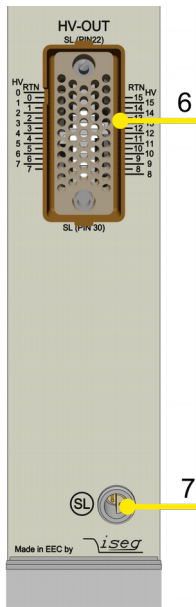
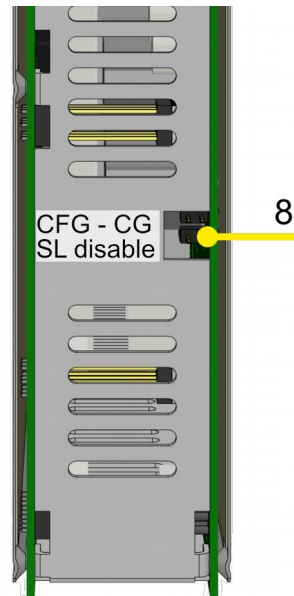
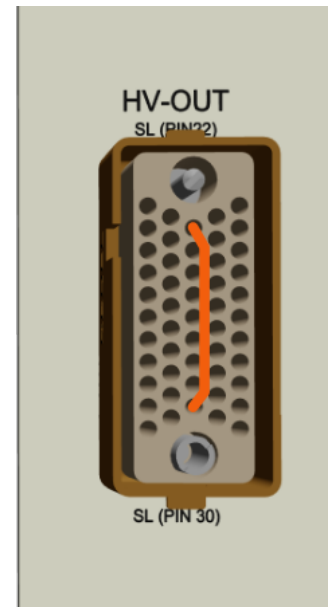

Figure 8: section of front view
Figure 9: section of back view
Figure 10: SL closed
A safety loop can be implemented by the safety loop socket (SL) on the front panel (number 7 on Figure 8: section of front view and between the SLcontacts (Pin 22 and PIN30, see Figure 22) at the REDEL-connector (number 6 on Figure 8: section of front view). If the safety loop is active a high voltage generation in any channel is only possible if the safety loop is closed and an external current in a range of 5 to 20 mA of any polarity is driven through the loop. The SL on the REDEL-connector must be shortened (Figure 10: SL closed). If the safety loop is opened during the operation the output voltages will be shut off without ramp, the corresponding bit in ModuleStatus is cancelled and in ModuleEventStatus is set (see "CAN_EDCP Programmers-Guide.pdf" in the chapter 13 Appendix). After closing the loop again the ModuleEventStatus has to be reset and the channels have to be switched ON. The loop connectors are potential free, the internal voltage drop is approx. 3 V. By factory setup the safety loop is not active (the corresponding bits are always set). The loop can be activated by removing the jumper "SL-disable" on the rear side (Figure 9: section of back view) of the module.